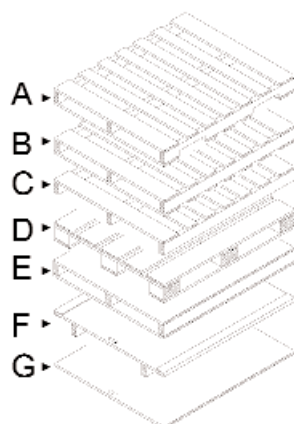

Fig. 1
(Use Fig 1 as a reference)
*Pallet Type (See Fig 1): _____